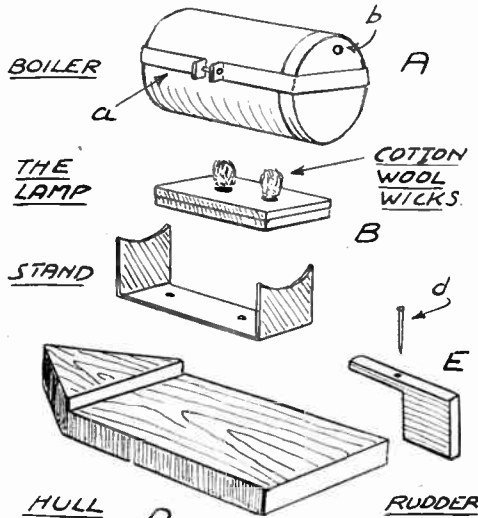

Fig. 2—Detail of the various parts
The parts are shown in Fig. 2. One thing needed is the small tin (A) with a fairly tightly fitting and well overlapping lid. Around this a strip of tin (a) is taken as indicated. This is of such a length that when the ends are turned out to a right-angle they are just a little distance apart.